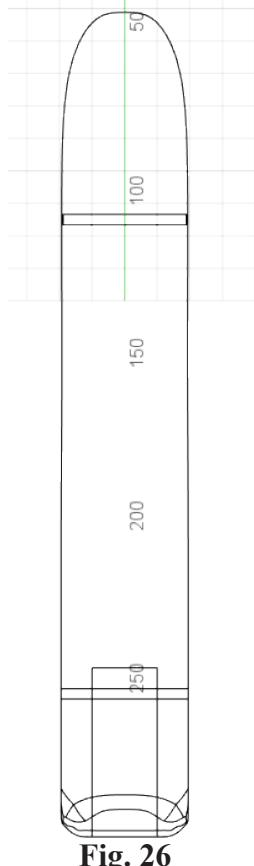

Fig. 26
Step 1. On the Solid tab click **Create Sketch** in the toolbar and click **Top plane** in canvas, Fig. 26.